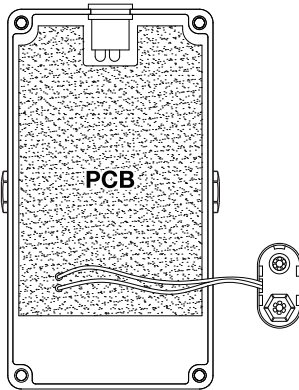

Figure 1
1. Open the rear cover, as shown in Figure 1.